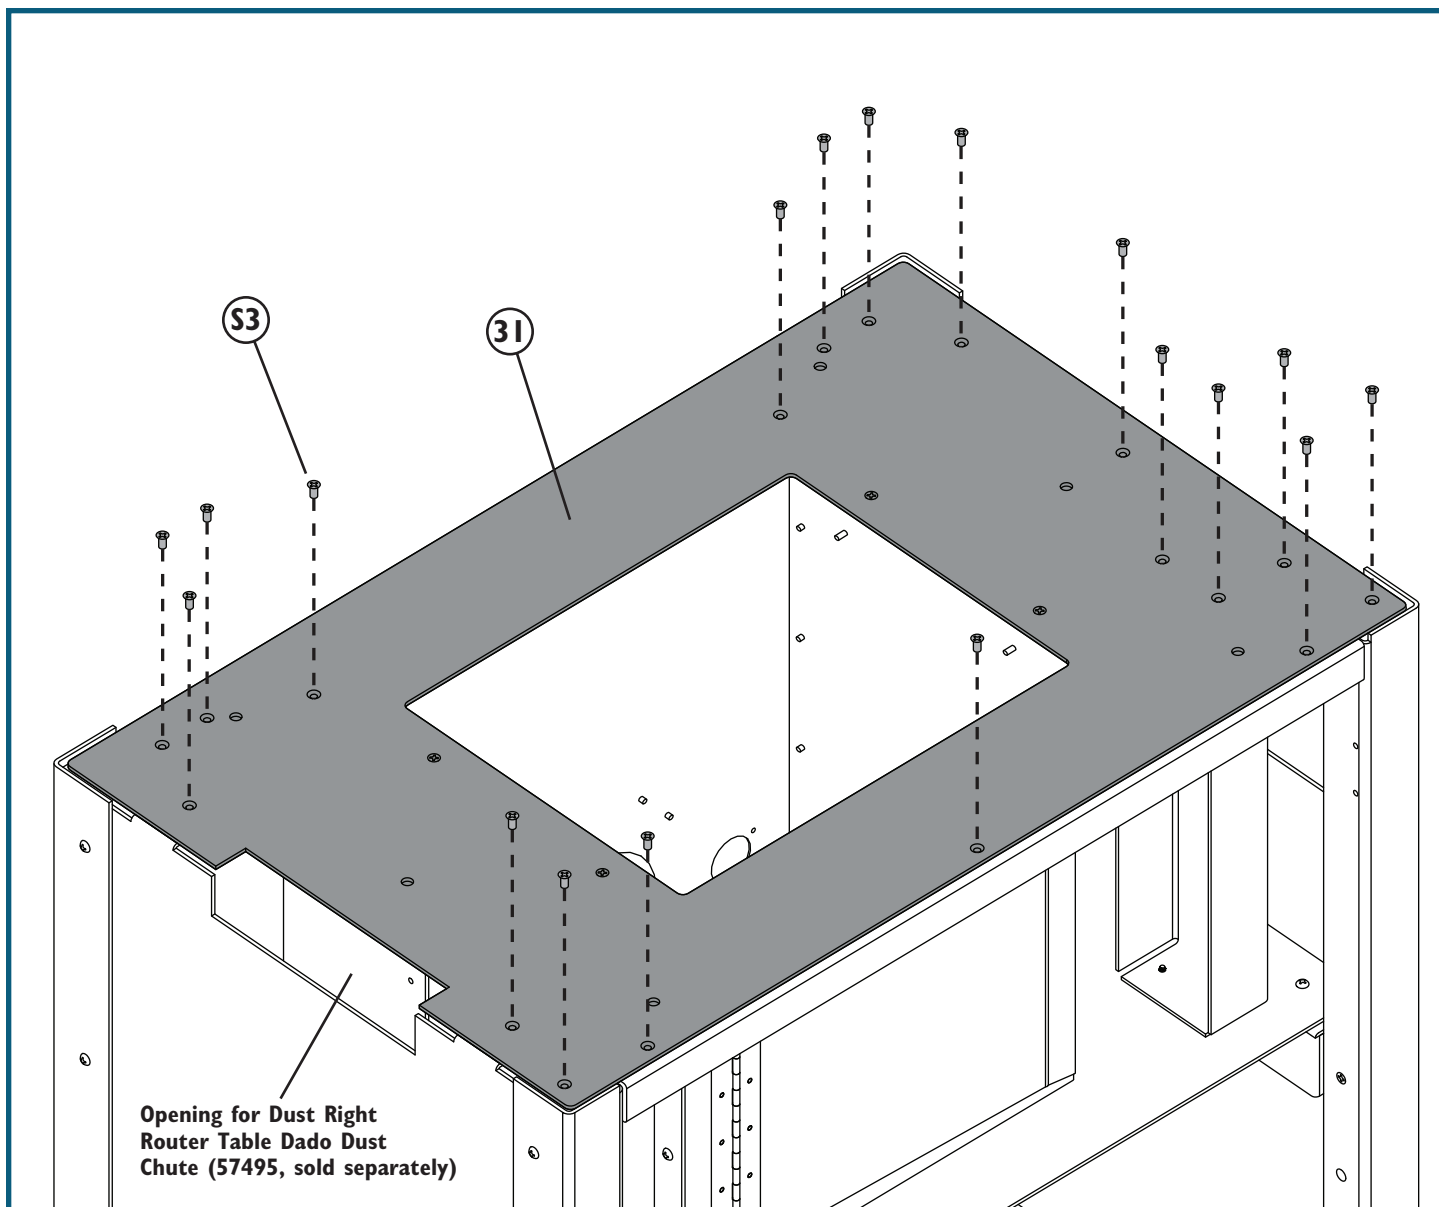

Fig. 21
3. Attach the Cabinet Top (31) to the tope flange of the Switch Bracket (29) and the rest of the Cabinet assembly by driving M4 x 3/8" Flat-Head Self-Tapping Screws (S3) at the locations shown in **Fig. 21.**